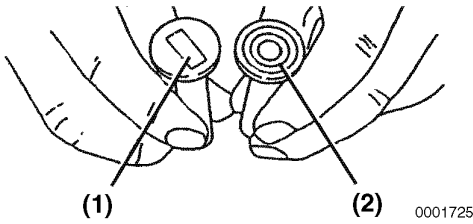

Figure 8-61
1. Inspect the tappet contact surfaces for abnormal wear (**Figure 8-61, (1)**). Normal wear will be even as shown in (**Figure 8-61, (2)**). Slight surface defects can be corrected using an oilstone.